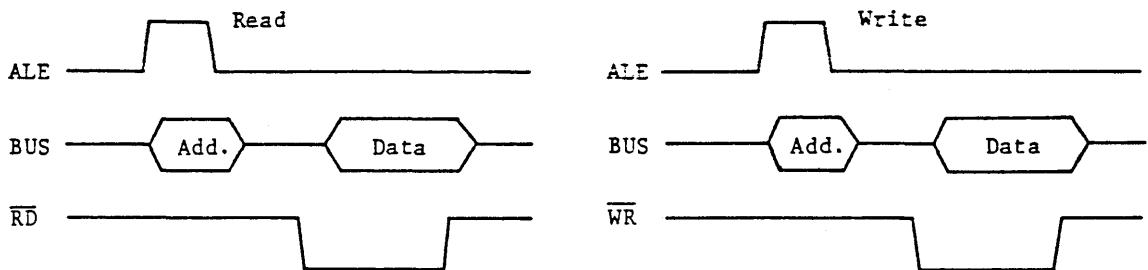

Fig.6 Timing of Accessing External Data Memory
- . Figure 6 illustrates the timing of accessing the external data memory during execution of external program.
(3) Interface with I/O Expander (TMP8243P)